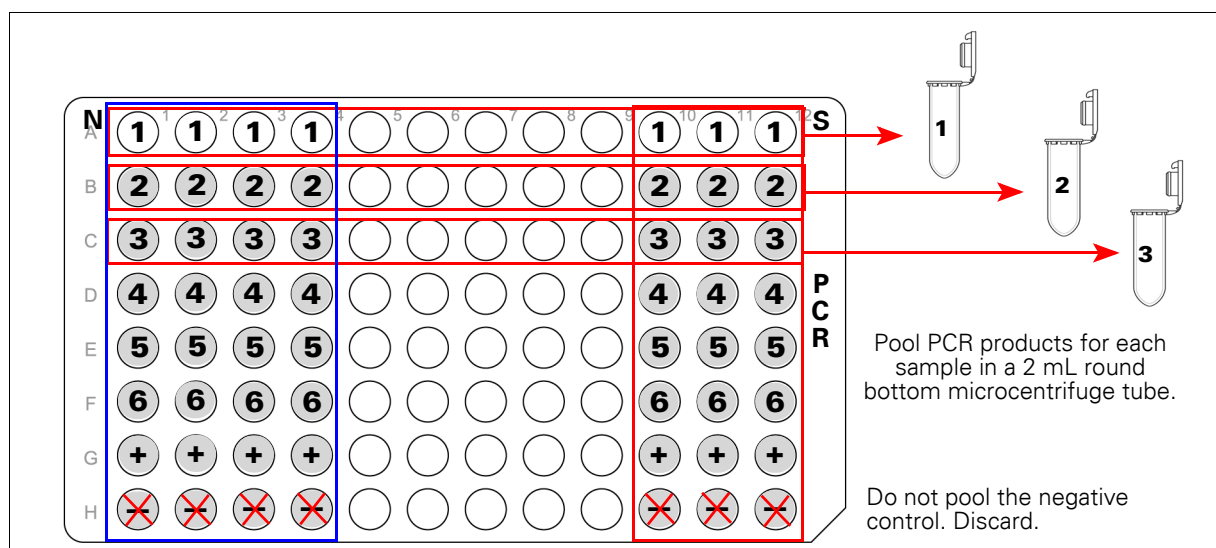

Figure 4.16 Pooling PCR products
4. Using a P200 single-channel pipet, transfer all 7 aliquots of each sample to the appropriately marked 2.0 mL tube (Figure 4.16 on page 54).